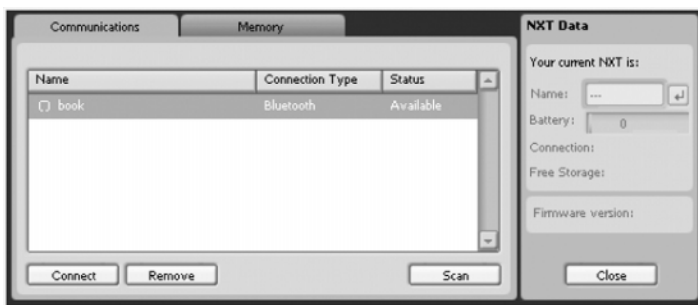

Figure 2-9. *The NXT named “book” has been found using Bluetooth.*
3. Connect the NXT to the PC using the USB cable. Otherwise, you can turn on the Bluetooth radio of the NXT brick using its menu. Be sure also to turn on the NXT Bluetooth visibility; use the NXT User Guide as a reference. Then, click the Scan button on the NXT window in Figure 2-8. If you're using a USB connection, it should find the NXT at once; scanning takes a bit more time, if you're searching the NXT using Bluetooth. Once the NXT has been found, it shows up in the list, as you can see in Figure 2-9.